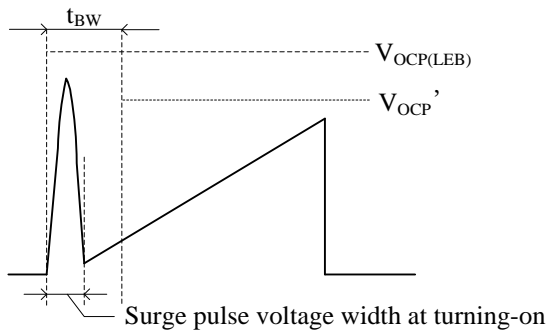
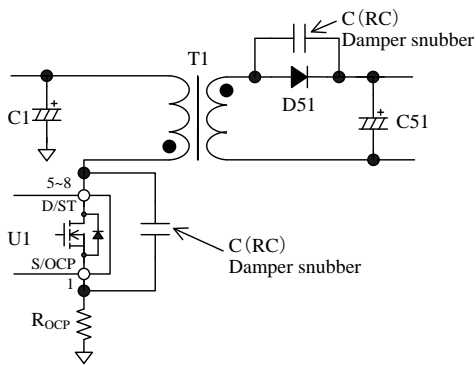

Figure 9-12. S/OCP Pin Voltage
Figure 9-13. Damper Snubber
During the Leading Edge Blanking Time, the OCP threshold voltage becomes $V_{OCP(LEB)} = 1.69$ V which is higher than the normal OCP threshold voltage as shown in Figure 9-12. Changing to this threshold voltage prevents the IC from responding to the surge voltage in turning-on the power MOSFET. This function operates as protection at the condition such as output windings shorted or unusual withstand voltage of secondary-side rectifier diodes.
When the power MOSFET turns on, the surge voltage width of the S/OCP pin should be less than t_{BW} , as shown in Figure 9-12. In order to prevent surge voltage, pay extra attention to R_{OCP} trace layout (see Section 10.2). In addition, if a C (RC) damper snubber of Figure 9-13 is used, reduce the capacitor value of damper snubber.